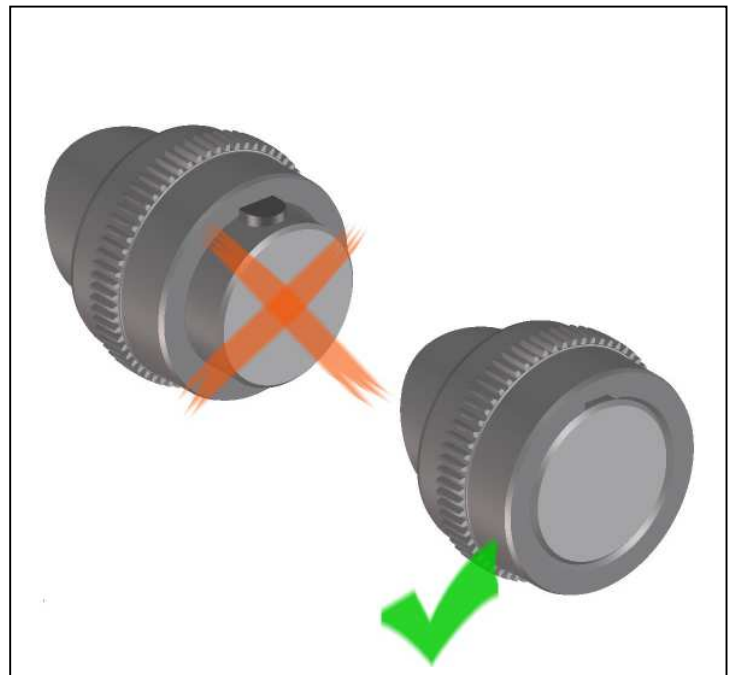

Fig. 6
- Mount the hubs in such a manner that the shaft end is even with the inner bore opening (Fig. 6).